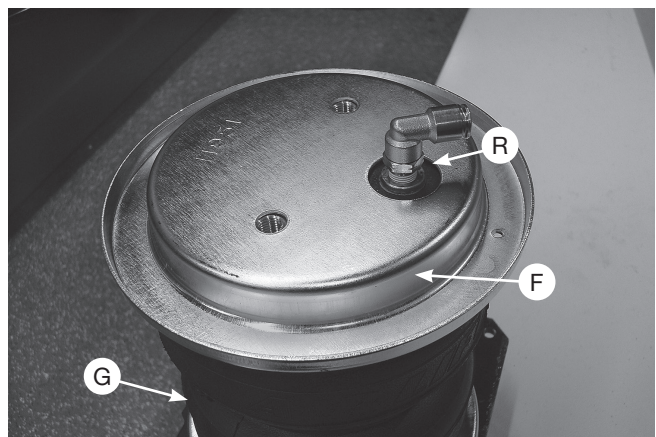

Fig. 8
1. Set a roll plate (F) on top of the air spring (G). The radiused, or rounded, edge of the roll plate should be toward the air spring so that it is seated inside the roll plate (Fig. 8). Install the 90 degree swivel fitting (R) into the port on top of the air spring, finger-tight plus 1 1/2 turns.